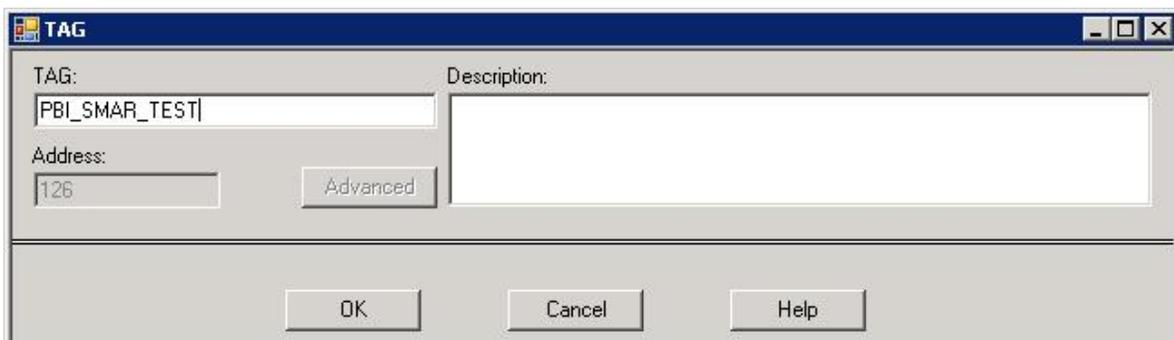

Figure 2.7 – Configuration of AssetView STANDALONE software
- 5) Selecting “PBI” option and then clicking “OK”, it will be prompt a screen where the PBI tag shall be attributed. See Figure 2.7.